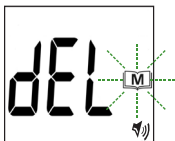

Figure 16
If you want to clear ALL memory, press the “M” button for (4) four seconds. See Figure 16. The “- - -” will appear to indicate all memory has been deleted and the meter will turn off.